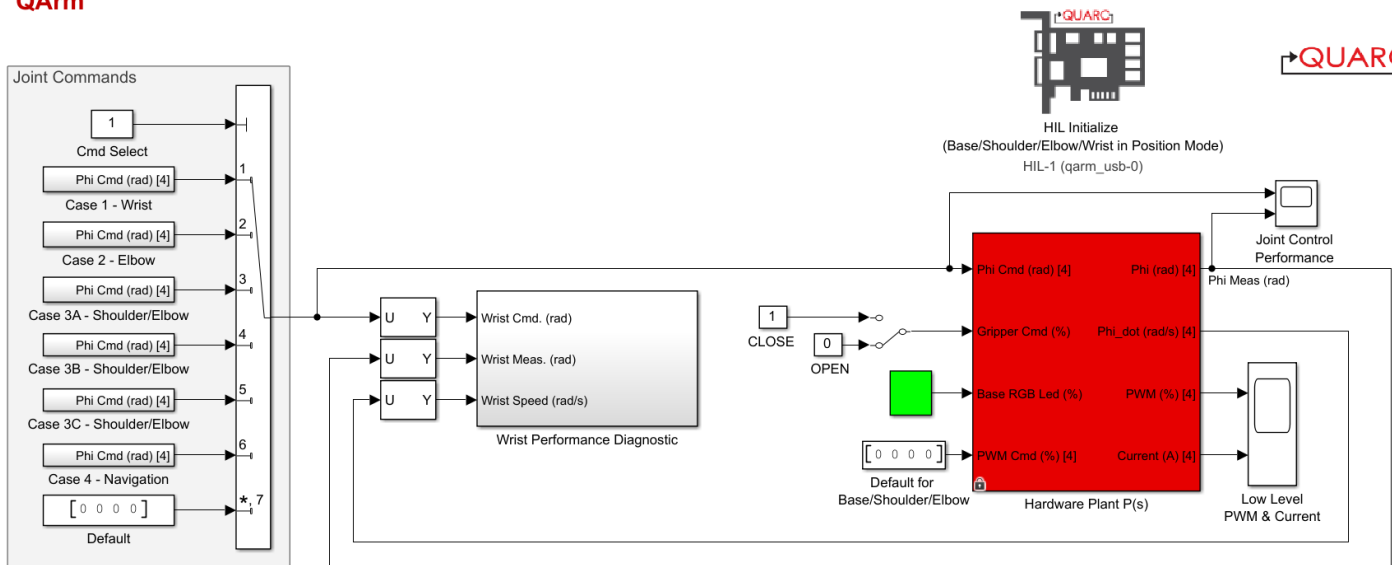

Figure 13: Simulink model for QArm in position mode
1. Open the Simulink model LowLevelControlNonLinearEffects.slx (Figure 13). In this part of the lab, you will study the cross coupling effects of the QArm joints when the position command is close to the unique cases mentioned in the Application Guide.